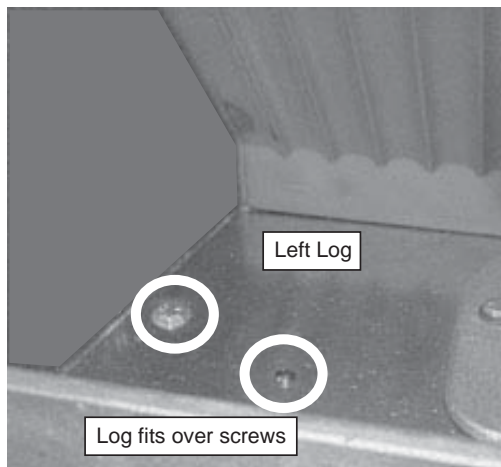

Figure 19.1
1. Place the left log as shown. There are 2 indentations in the bottom of the log to fit over the screw heads in the firebox. **Figures 19.1 and 19.2.**